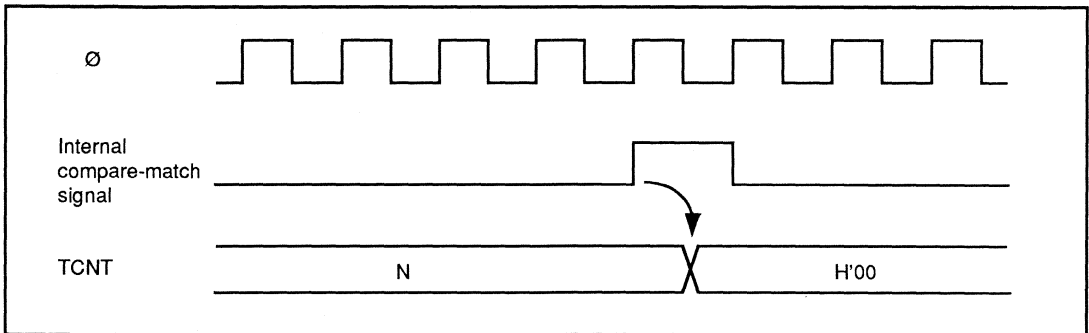

Figure 8-8. Timing of Compare-Match Clear
(4) **Timing of Compare-Match Clear:** Depending on the CCLR1 and CCLR0 bits in the TCR, the timer counter can be cleared when compare-match A or B occurs. Figure 8-8 shows the timing of this operation.